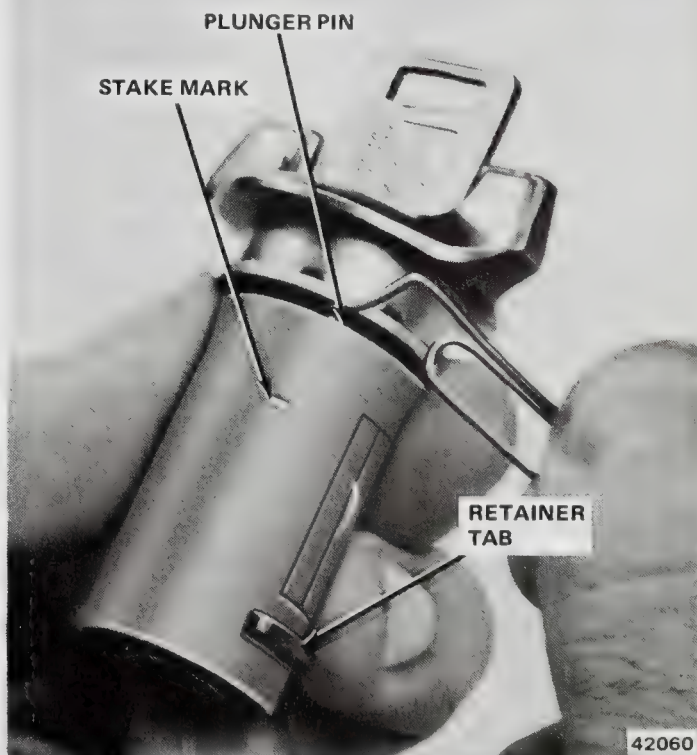

Fig. 2H-33 Compressing Plunger Pin
(11) If lock cylinder does not release from sleeve easily, buzzer actuator has not retracted fully. Jarring cylinder on work bench will free actuator and permit removal.
(12) Pry tumbler retainer from lock cylinder and remove tumbler springs (fig. 2H-35).
(13) Pull side bar outward slightly and remove tumblers (fig. 2H-35).